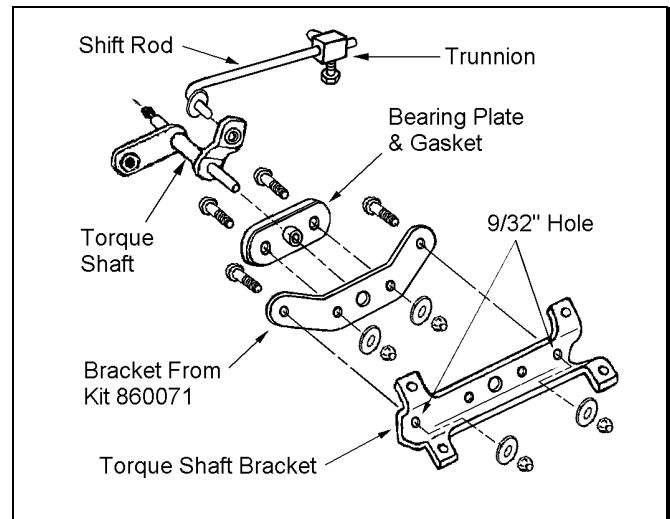

Figure 20
- 5) ☒ Attach the bearing plate, with gasket, to the shift relocating bracket. See figure 20.